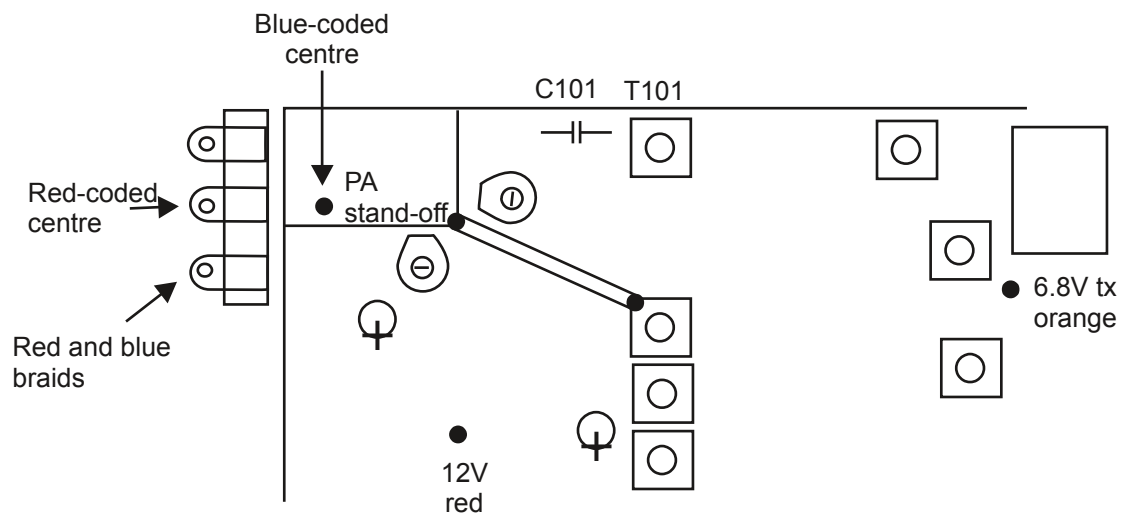

Figure 3: Component and wiring connections
3. Locate (see Fig .3) and remove C101. This capacitor is located on the main pcb near the PA compartment, close to the back panel of the transceiver. This may be accomplished by crushing the component with a pair of long nosed pliers and then cutting the remaining leads flush with the board. This may sound a bit crude, but it is better than wrecking the foil pattern on the reverse side of the board.
16. Solder the red wire to the 12V stand-off on the main pcb as shown on Fig.3.
17. Solder the orange wire to the 6.8V Tx stand off as shown on Fig.3.